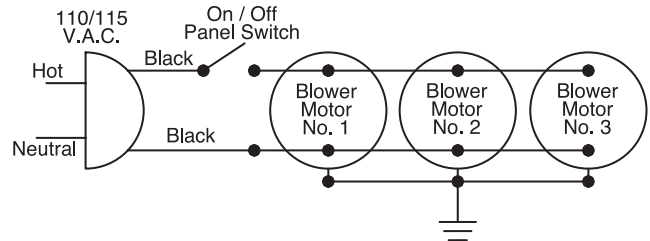

Figure 6 - Wiring Diagram
2. Apply wiring diagram label (shown in Figure 6) to control cover and replace cover back over compartment opening.